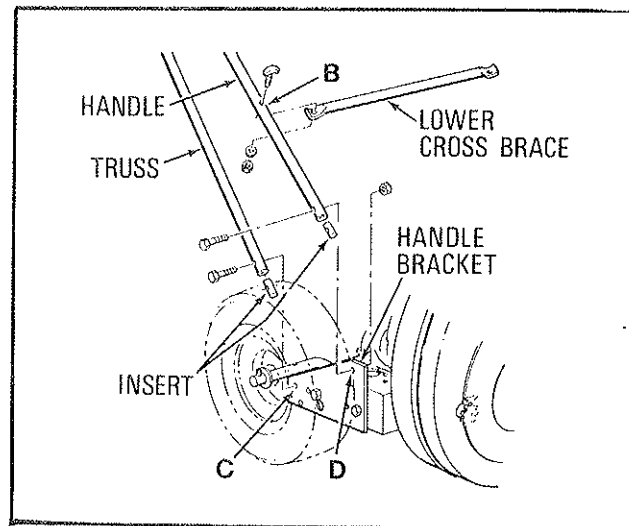

Figure 2. Assembly to Frame
C. Assemble the two trusses to bottom holes of the right and left handle and axle brackets, using 5/16-18 x 1-1/2 bolts, 5/16-18 lock hex nuts. Make sure a steel insert is in the end of each truss as shown when attached at point "C" Fig. 2. **DO NOT TIGHTEN.**
D. Assemble the two handles to top holes of the right and left handle and axle brackets using 5/16-18 x 1-1/2 bolts, 5/16-18 lock hex nuts. Make sure a steel insert is in the end of each handle as shown when attached at point "D" Fig. 2. **DO NOT TIGHTEN.**